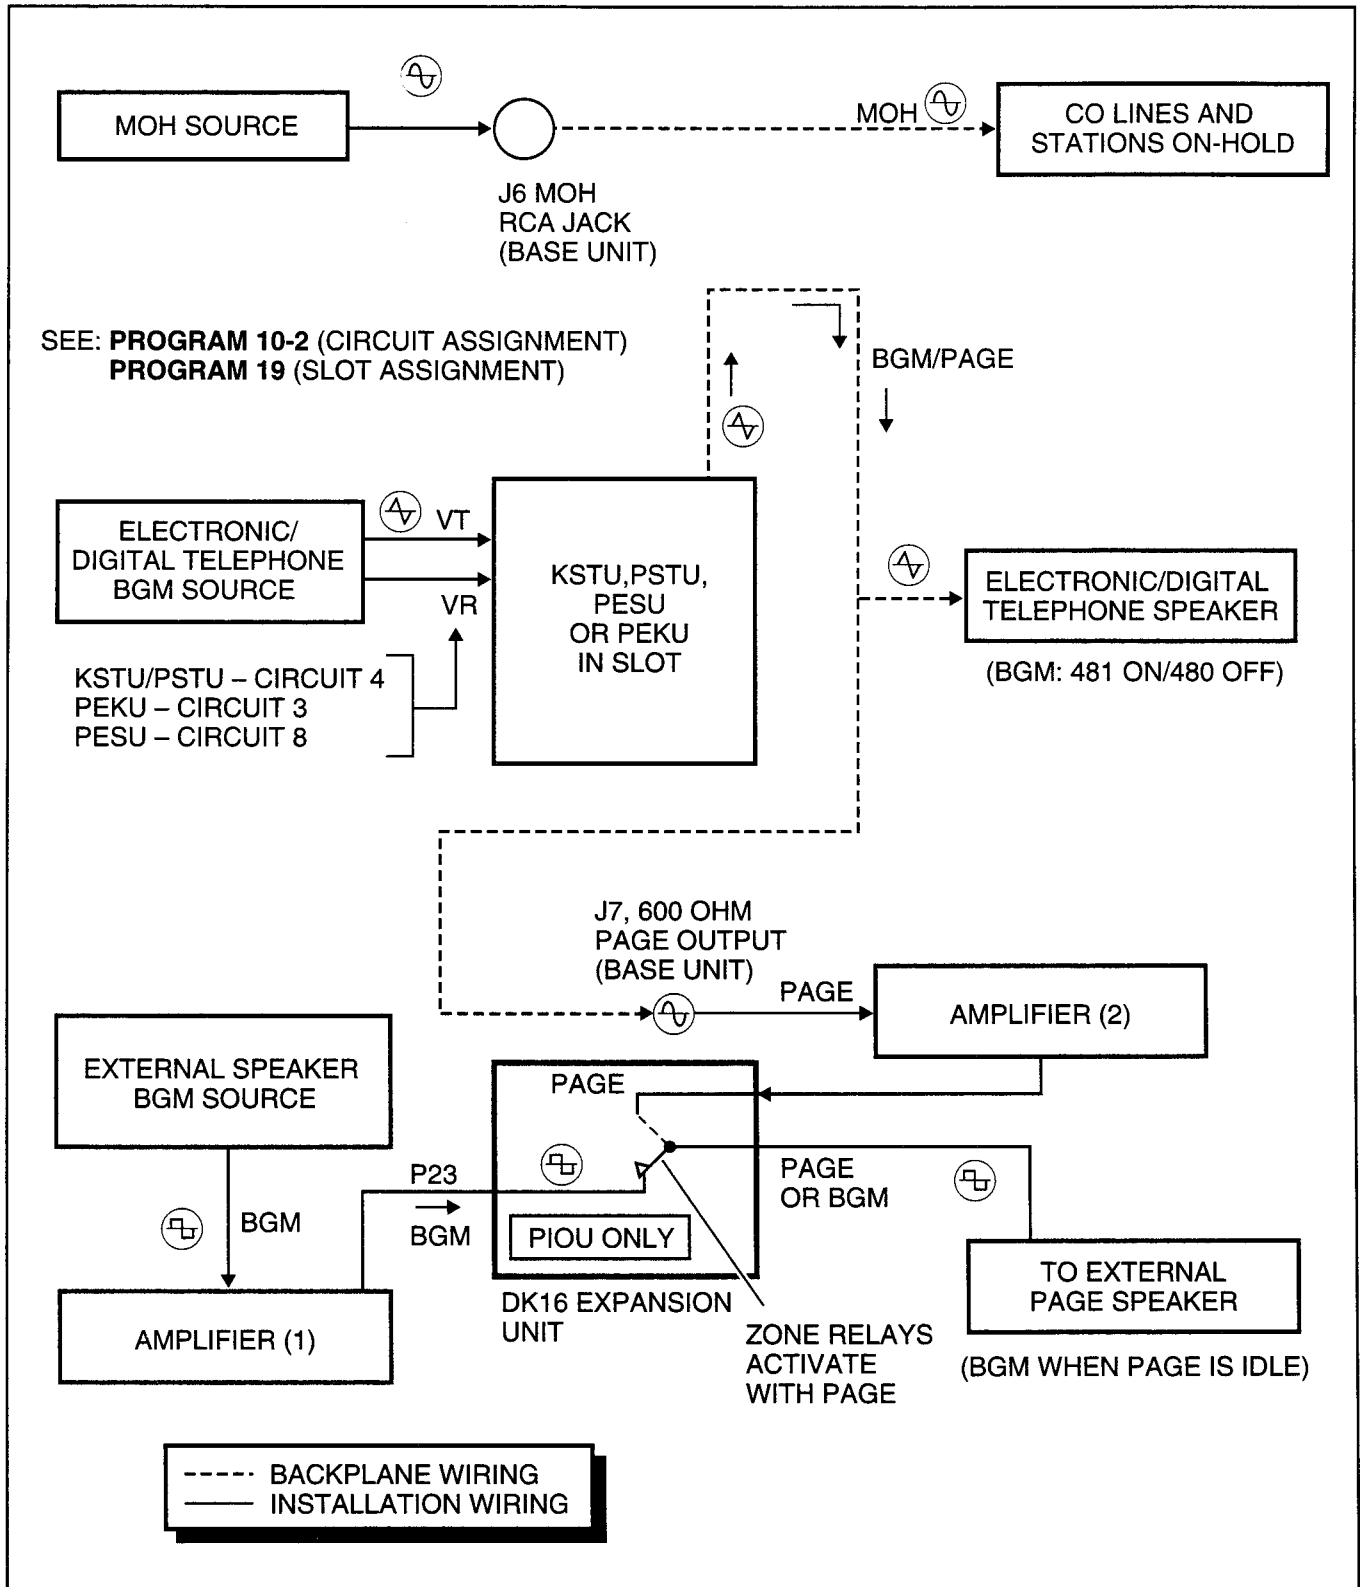

FIGURE 7-5
- 3) Configuration C (DK16 only)—three music sources: This configuration allows the MOH source to be connected to the MOH jack on the Base Unit (as in Configuration A). The digital or electronic telephone BGM source is connected to a designated circuit on the PEKU, PESU, PSTU, or KSTU (as in Configuration B), and a separate BGM source is sent to the external page speakers via the PIOUS Zone relay contacts (see Figure 7-5). When a separate BGM source is connected to the PIOUS, two customer-supplied amplifiers are required to drive the external speakers. One amplifier (1) drives the speakers for BGM when page is idle and the other amplifier (2) drives the speakers during page.